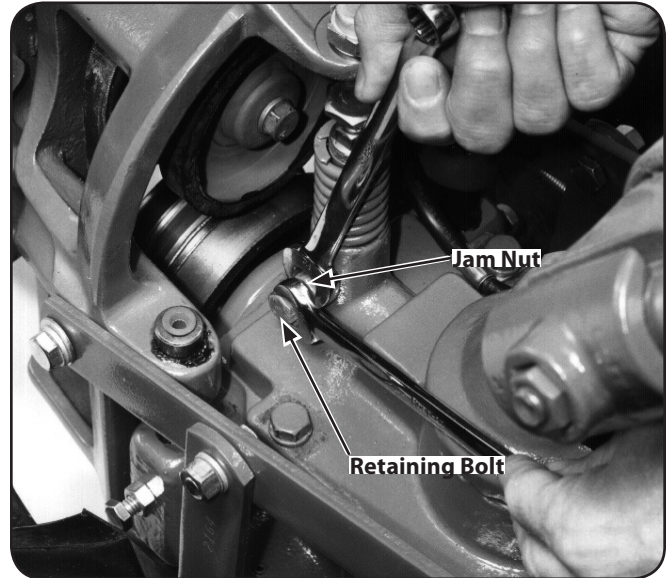

Figure 6-22
- On the left side of the tiller, put a $\frac{1}{2}$ " wrench on the plunger retaining bolt and another $\frac{1}{2}$ " wrench on the jam nut next to it. See Figure 6-22.
9. Hold the plunger retaining bolt steady with a wrench while tightening the jam nut against the side of the plunger housing. See Figure 6-22.